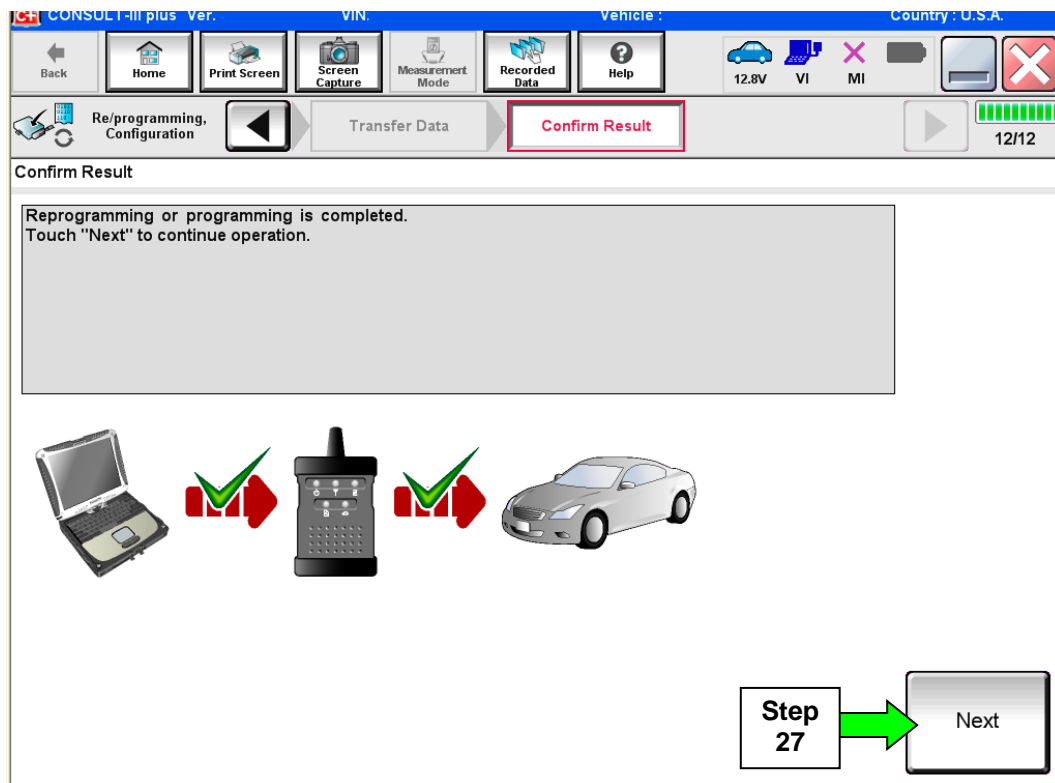

Figure 18
26. When the screen in Figure 18 displays, reprogramming is complete.
NOTE: If the screen in Figure 18 does not display (indicating that reprogramming did not complete), refer to the information on page 14.